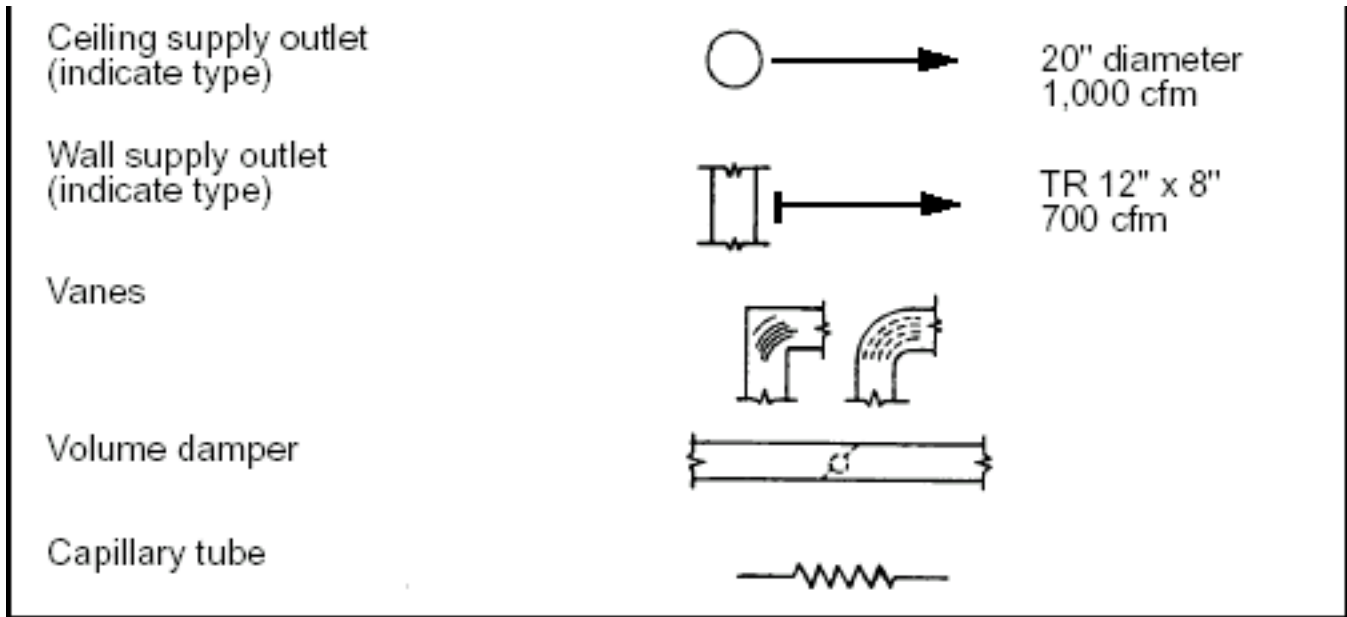

Figure B-10. Heating Fittings
- Heating Fittings (Figure B-10).